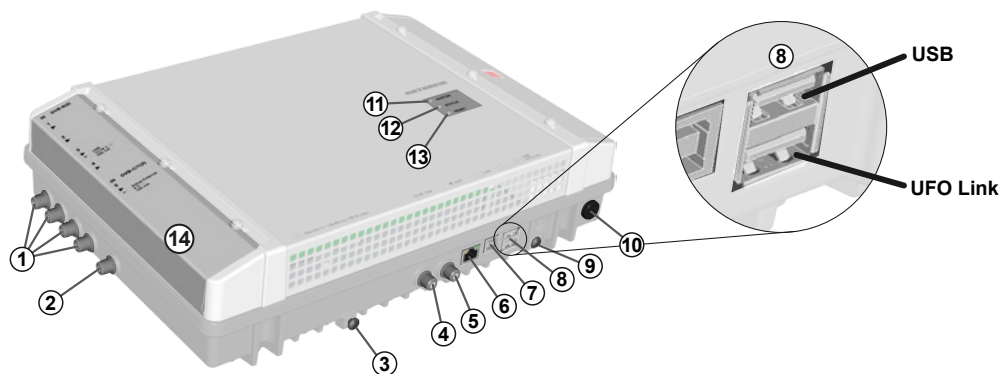

Fig. 1: Device elements
- Do not open the casing and do not modify the device. Otherwise the guarantee and warranty will become void. Exception: Cover of the CI slots (14 in Fig. 1, P. 3)
1. Connect a potential equalisation wire (Cu,  $\geq 4 \text{ mm}^2$ ) to the earthing screw; see ④ in Fig. 1, P. 3.